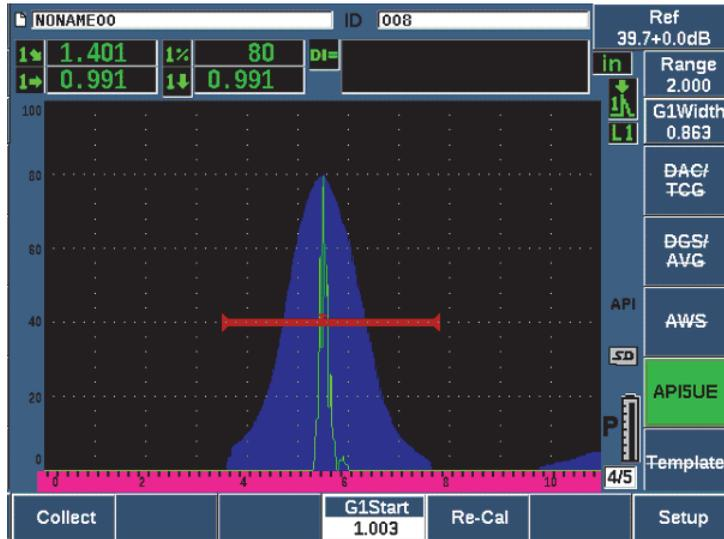

Figure 11-23 Calibration data in collect mode
The letter **P** appears to the right of the live A-Scan display (see Figure 11-23 on page 259).
5. Press **Collect** (P1 key) to collect the A_{max} , T_1 , and T_2 data from the envelope (see Figure 11-23 on page 259).